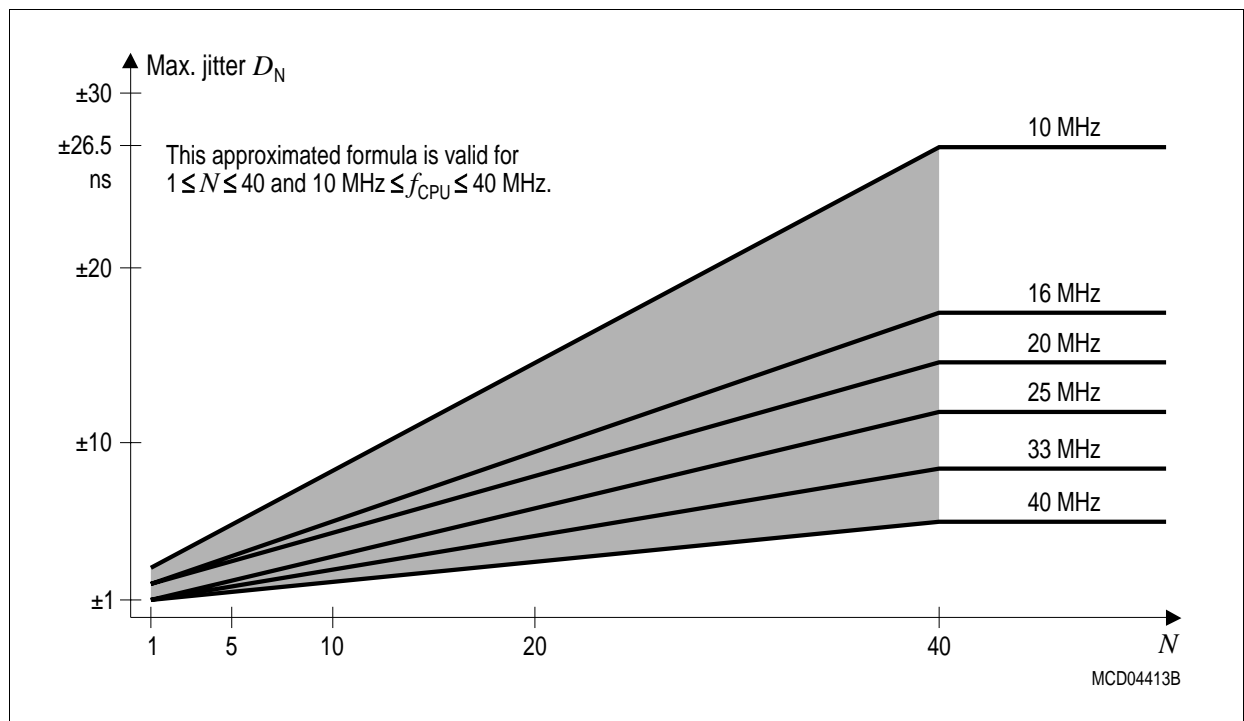

Figure 12 Approximated Maximum Accumulated PLL Jitter
The timings listed in the AC Characteristics that refer to TCLs therefore must be calculated using the minimum TCL that is possible under the respective circumstances. The actual minimum value for TCL depends on the jitter of the PLL. As the PLL is constantly adjusting its output frequency so it corresponds to the applied input frequency (crystal or oscillator) the relative deviation for periods of more than one TCL is lower than for one single TCL (see formula and **Figure 12**).
*Note: For all periods longer than 40 TCL the $N=40$ value can be used (see **Figure 12**).*